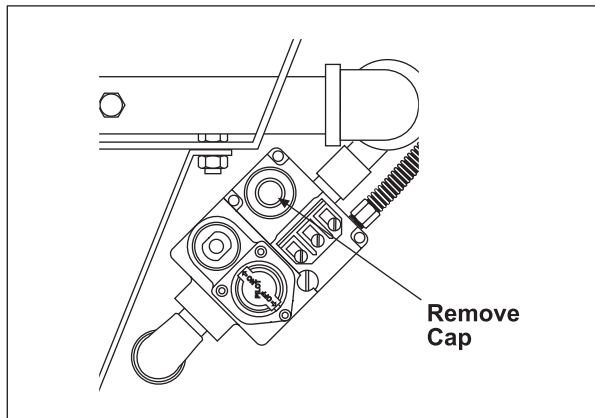

Figure 25
- A. To adjust, remove the cap covering the manifold pressure adjustment screw (Figure 25). Turn the recessed manifold pressure adjustment screw counterclockwise to decrease pressure or clockwise to increase pressure.